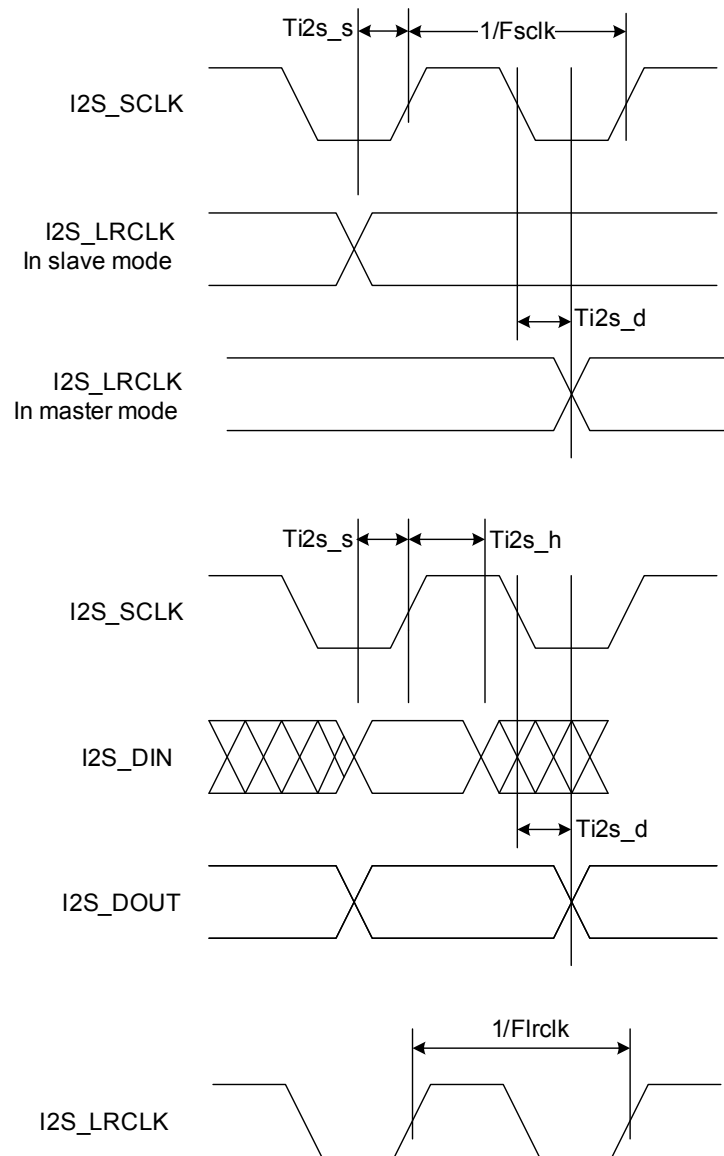

Figure 7. I2S Interface Timing
| SPECIFICATIONS AND TIMING FOR THE I2S PORT (5) See <a href="#">Figure 7</a> .      |                |                    |                                                |     |         |